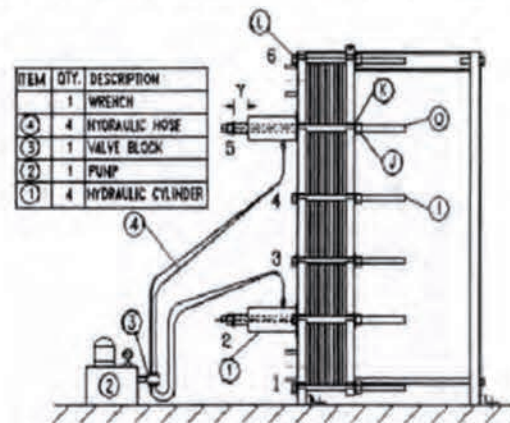

Figure 4.2 • Hydraulic Opening of FLO PLATE
4. Install the nuts (Item L. Figure 4.2)